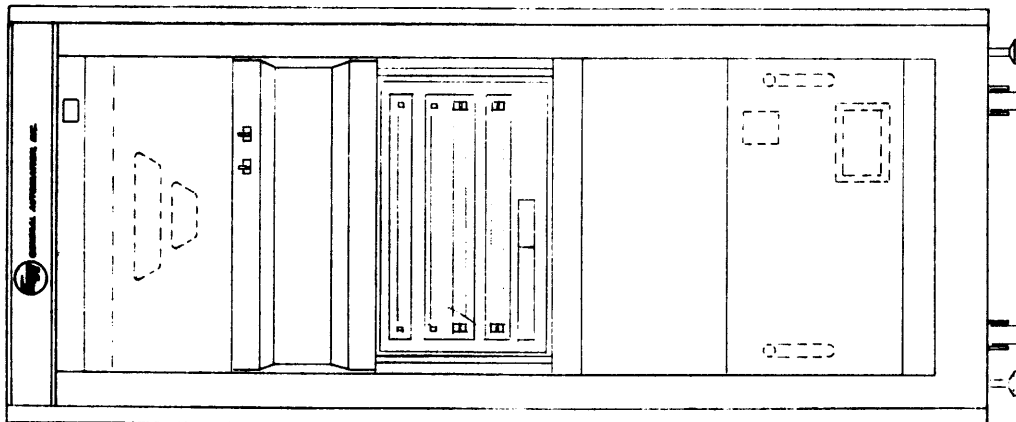

Figure 2-11. 1901 System Enclosure with SPC-16/45/65/85, 1615 I/O Expansion Chassis, 3346/3347/ Disk, Paper Tape Reader and Paper Tape Punch
- o Figure 2-11 shows an SPC-16/45/65/85 mounted with a 1615 I/O Expansion chassis, a 3346 or 3347 Disk unit, and optional Paper Tape Reader and Paper Tape Punch.